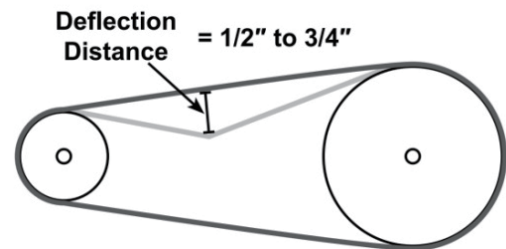

Figure 19
- Press on the center of the longest span on the Belt with moderate finger pressure. Then measure the deflection distance, the distance that the Belt moved. The Belt should deflect anywhere from 1/2" to 3/4" . Figure 19.